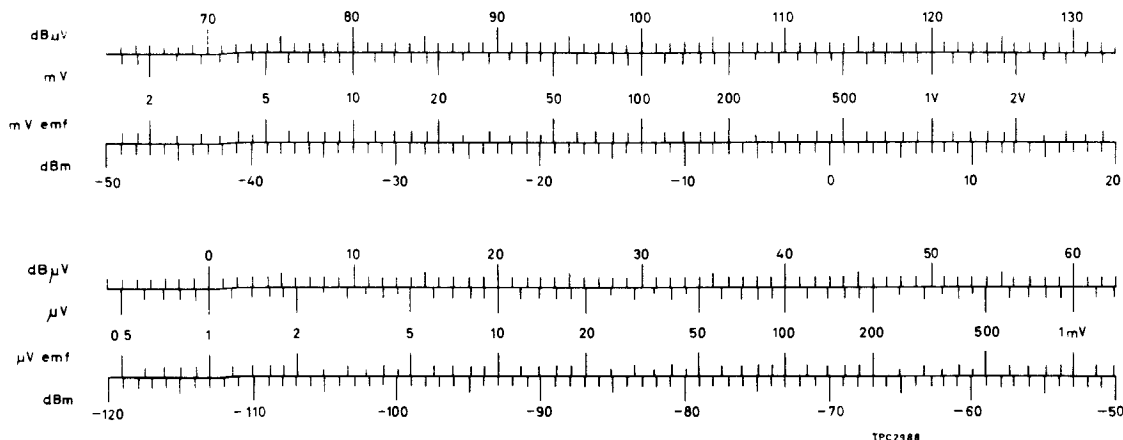

Fig. 3 Output conversion scale.
19. The RF OUTPUT controls (coarse and fine attenuators) are calibrated in V e.m.f. Where dB $\mu$ V or dBm levels are to be used refer to the conversion scale shown in Fig. 3.